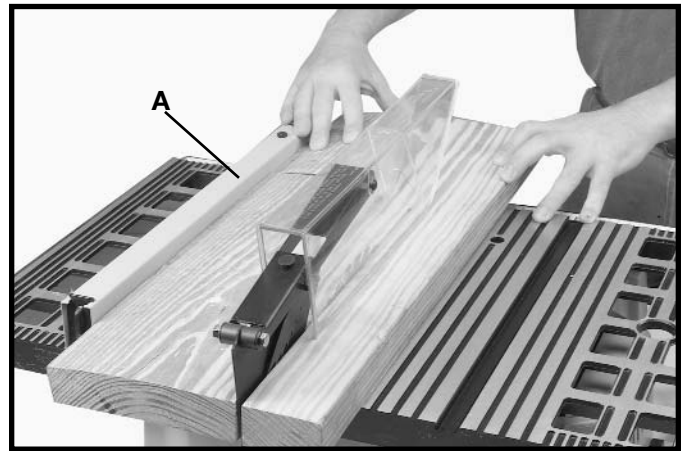

Fig. 44
Ripping is the operation of making a lengthwise cut through a board, as shown in Fig. 44, and the rip fence (A) is used to position and guide the work. One edge of the work rides against the rip fence while the flat side of the board rests on the table. Since the work is pushed along the fence, it must have a straight edge and make solid contact with the table. The saw guard must be used. The guard has anti-kickback fingers to prevent wood kickback, and a splitter to prevent the wood kerf from closing and binding the blade.
Start the motor and advance the work holding it down and against the fence. Never stand in the line of the saw cut when ripping. Hold the work with both hands and push it along the fence and into the saw blade as shown in Fig. 44. The work can then be fed through the saw blade with one or two hands. After the work is beyond the saw blade and anti-kickback fingers, the hand is removed from the work. When this is done the work will either stay on the table, tilt up slightly and be caught by the rear end of the guard or slide off the table to the floor. Alternately, the feed can continue to the end of the table, after which the work is lifted and brought back along the outside edge of the fence. The cut-off stock remains on the table and is not touched with the hands until the saw blade is stopped, unless it is a large piece allowing safe removal. When ripping boards longer than three feet, it is recommended that a work support be used at the rear of the saw to keep the workpiece from falling off the saw table.